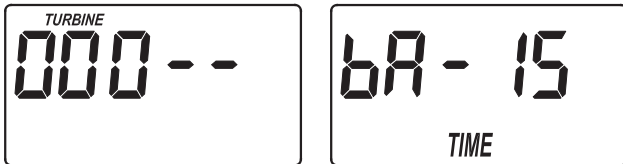

FIG. 20
1. Press and hold for 3 seconds the SELECT button, until the display shows "000 - -", then press the SELECT button again to display the backwash time adjust screen (See Figure 20).